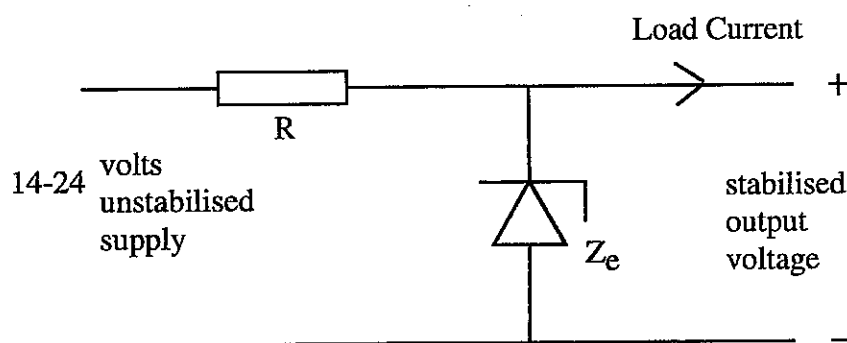

Fig Q3
- (i) the initial current when this resistor is connected; (3)
- (ii) the new time constant for the circuit; (3)
- (iii) the time taken for the current to fall to half of its initial value. (4)
3. Fig Q3 shows a simple voltage regulator using a Zener diode and a series resistor.